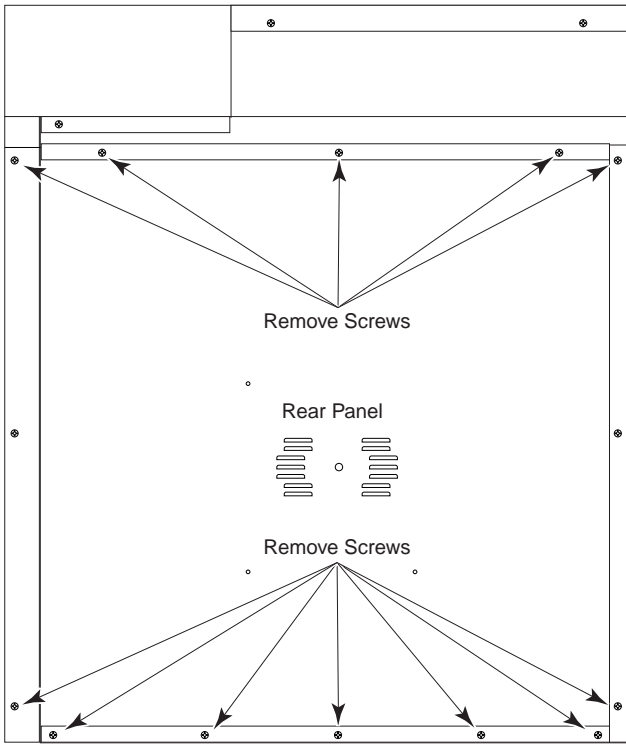

Figure 6
3. Remove the screws from the rear panel and remove the panel (see Figure 6).